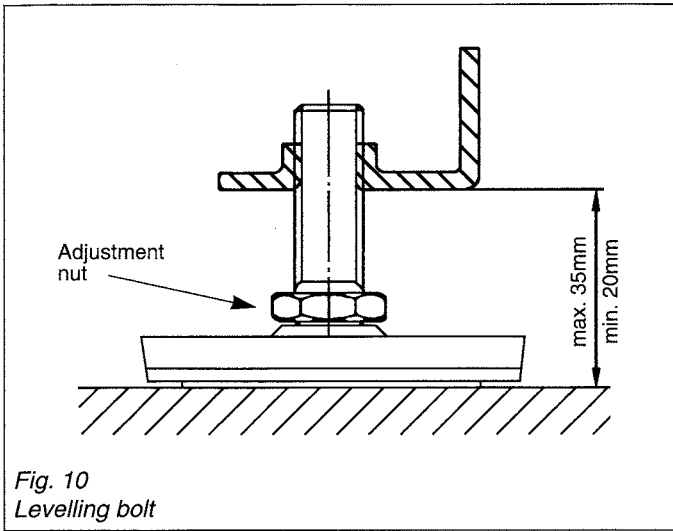

Fig. 10
10. Slide installation keys ① (4 pieces) as washers under hex bolts.
13. Level boiler using levelling bolts (see Fig. 10).